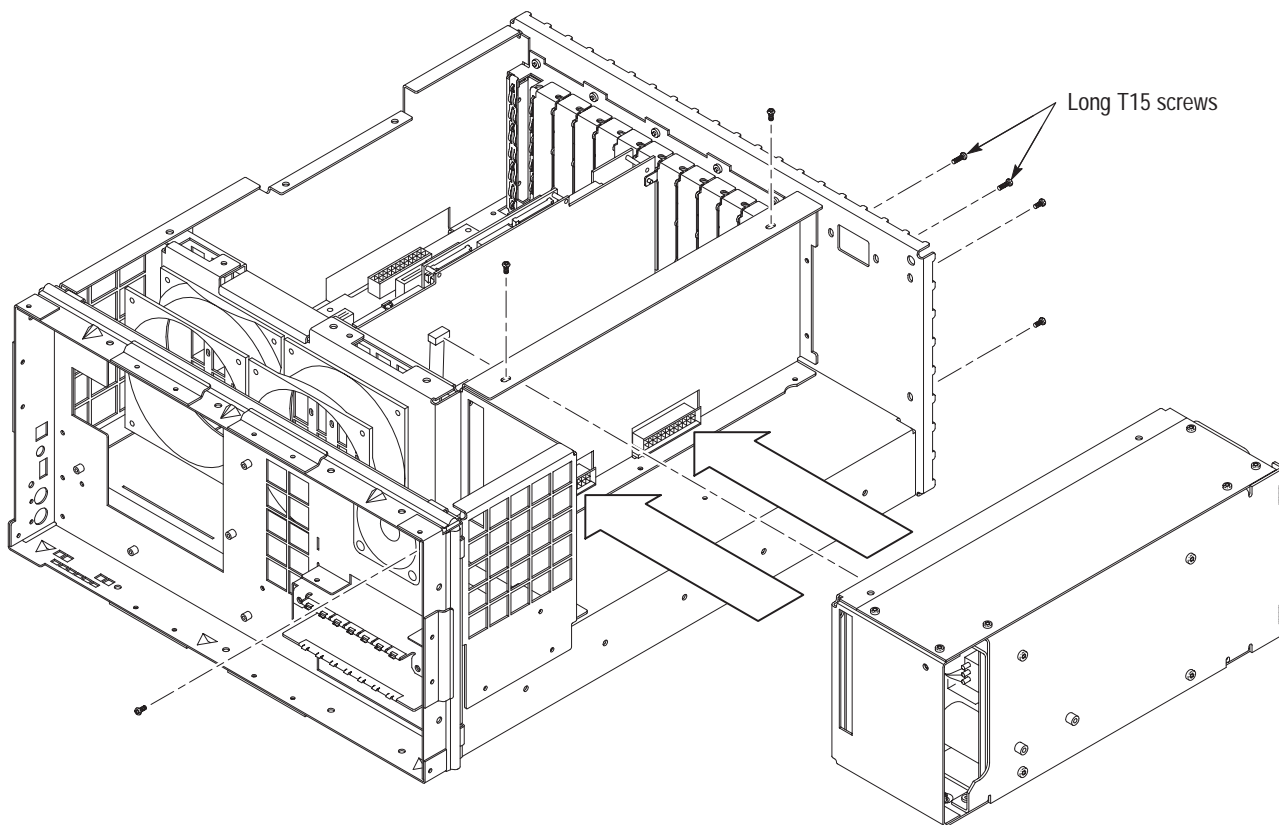

Figure 6–18: Power supply long and short screw locations
1. Align the power supply connectors with backplane connectors as shown in Figure 6–18.